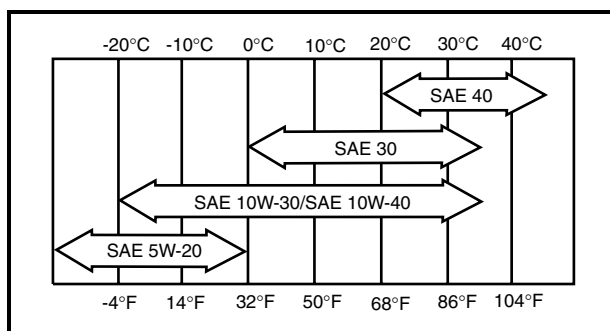

Figure 10-10 Oil Viscosity Chart
14. Remove the dip stick and add engine oil into port. Use a funnel or pour spout to direct the oil (**Figure 10-9, Page 10-6**). With filter change, the engine requires 38 ounces (1.12 liters) of oil per change. Refer to oil viscosity guidelines for selection of oil grade (**Figure 10-10, Page 10-7**).
Choose the viscosity according to the temperature as shown (**Figure 10-10, Page 10-7**). See following **NOTE**.